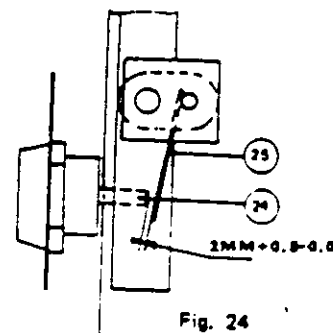

Fig. 24
If the breaker is fitted with a signal system for overload and short circuit tripping with local reset, adjustments should be carried out as previously outlined. In other cases, adjust screw (24) (Fig. 24) for obtaining clearance of $2 \pm 0.5 \pm 0.0$ mm (0.079 ± 0.158 inch) between strip (25) and the end of the screw (24).